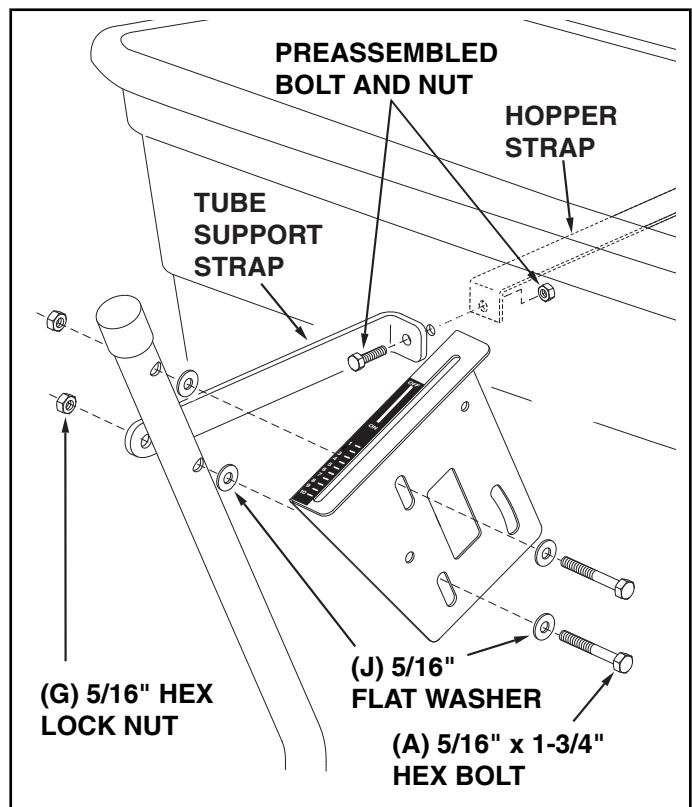

FIGURE 6
15. Assemble the flow control mounting bracket and the tube support strap to the flow control mounting tube using two 5/16" x 1-3/4" hex bolts (A), four 5/16" washers (J) and two 5/16" hex lock nuts (G). **DO NOT TIGHTEN YET**. See figure 6.
16. Remove the preassembled bolt and nut from the front of the hopper. Attach the tube support strap to the hopper and hopper strap using the bolt and nut you removed. **TIGHTEN** the nut and bolt. See figure 6.